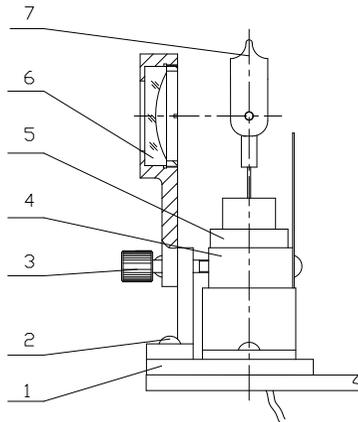

Fig.6 Illumination group
- ◆ Re-adjusting (See Fig 6).
Method of replacing the bulb (See Fig.6)
RS232 connector showed as 2 of Fig.6. Communicating between the instrument and computer. It can process the data automatically and draw out the outline of parts through the special software. The report of measurement result and drawings can be printed out through the printer.